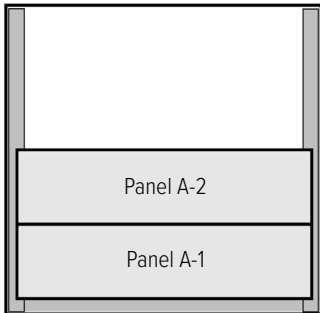

Figure 3.3.1
3.3.1 Place Panel “A-2” on top of Panel “A-1” as shown in **Figure 3.3.1**.